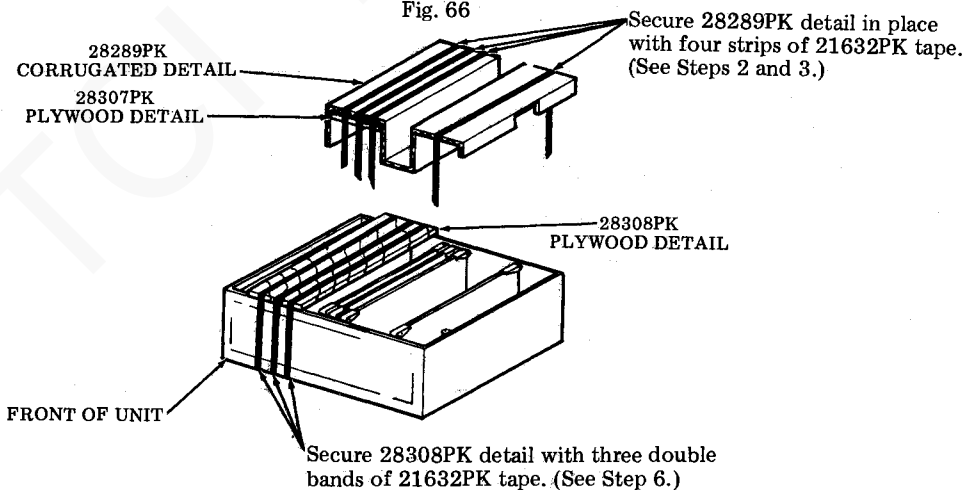

Fig. 67
- Step 2. After unit is completed, position a 28307PK plywood detail on top of the three circuit card grouping. Form and position a 28289PK corrugated detail over circuit cards and plywood detail as illustrated in Fig. 67.
- Step 3. Tightly secure the corrugated detail in place with four strips of 21632PK tape tightly applied over top of detail and extending down to bottom of unit at front and rear of unit. Pull tape firmly for good adhesion. (See Fig. 67.)
- Step 6. Tightly secure a 28308PK plywood detail to top of power supply with three double bands of 21632PK tape, applied over top of plywood detail and around front, bottom, and rear of unit. Tape should be in approximate position on plywood detail as shown in Fig. 67.